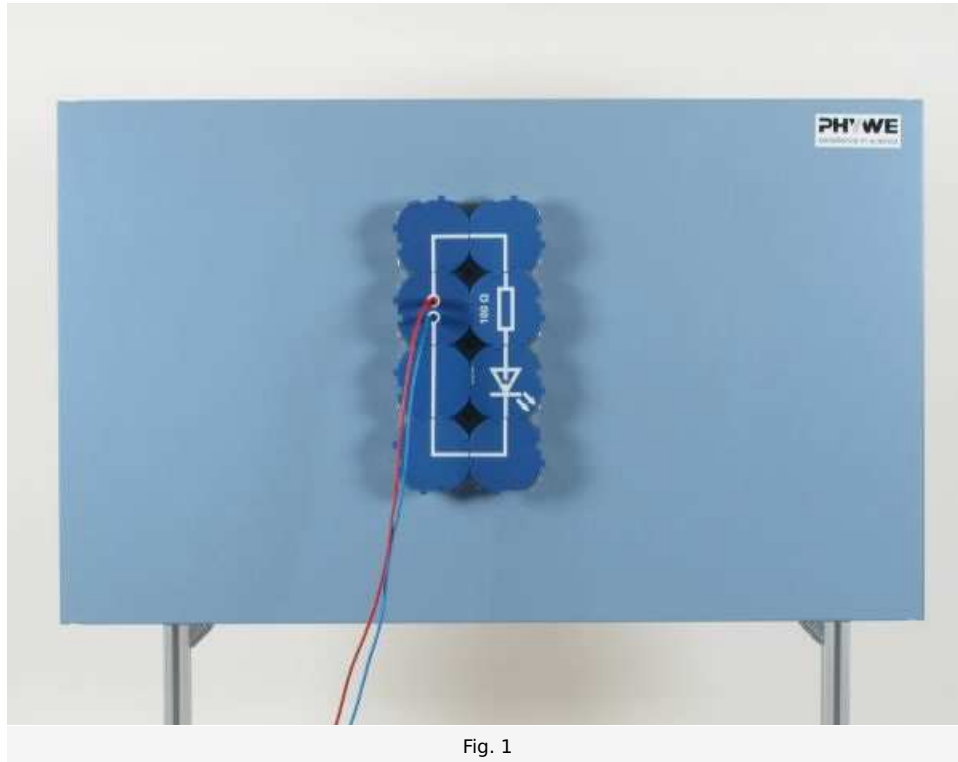

Fig. 1
- First set up part 1 of the circuit as in Fig. 1; do not yet use the light conductor
- Gradually increase the signal frequency of the function generator and observe the light at the end of the light conductor; move the end of the light conductor quickly and observe the light (1)